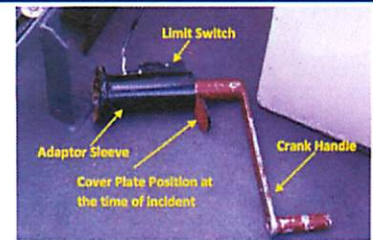

Figure 4 – Winch arm after incident
2. The lower stud did not have a wing nut and was painted over indicating that the plate was normally rotated up. The design of the cover plate and securing mechanism (two wing nuts) allows rotation and securing in the wrong position and there are no visual cues on the assembly to prompt a person to align properly (Figure 4).